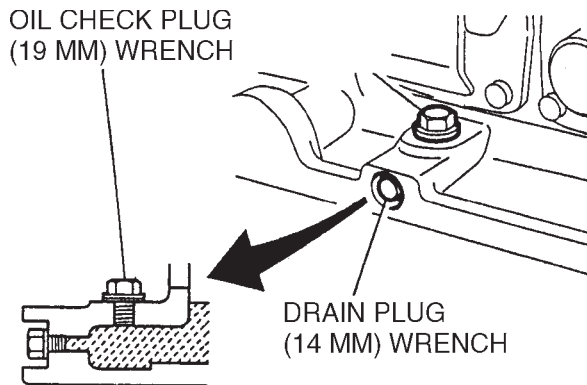

Figure 22. Vibrator Oil Maintenance
1. In every 100 hours of operation, with the machine positioned horizontally, remove vibrator oil level check plug (Figure 22) off vibrator 3/4" (19 mm wrench) and see if oil is up to filler port. Be sure to clean area around check hole to prevent dirt and dust from entering.